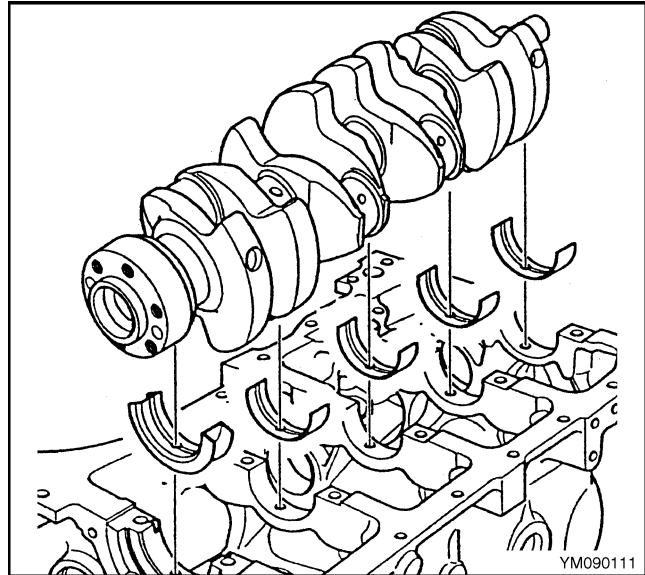

Figure 57. Crankshaft Removal
6. Carefully remove the crankshaft from the engine block. See Figure 57.
3. Carefully install the crankshaft in the engine block. See Figure 57.